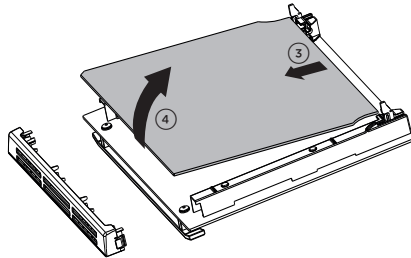

Fig. 38
- Gently lift and pull out the inner pane of glass by releasing it from the bottom retainers. Do not angle the pane too much as you may damage the glass (fig. 38).